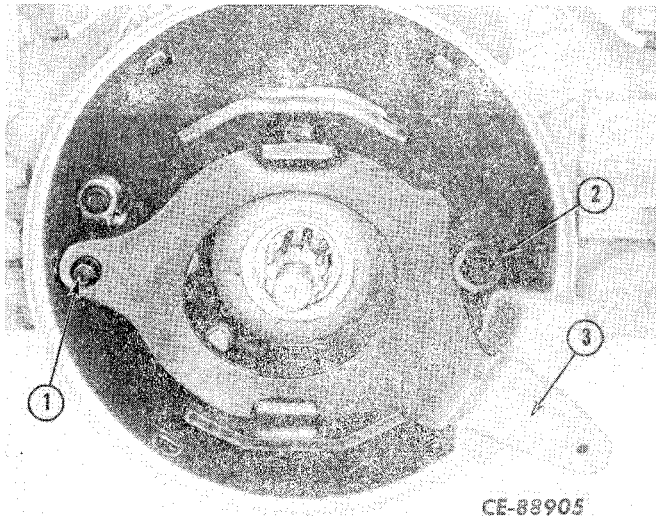

Figure 13-14
Remove the brake actuating lever (3, Fig. 13-14) and roller (2).
Install the parking brake actuating lever (3, Fig. 13-14). Position lever on left hand brake pawl (1). Roller (2) on right hand pawl must ride on upper edge of lever.